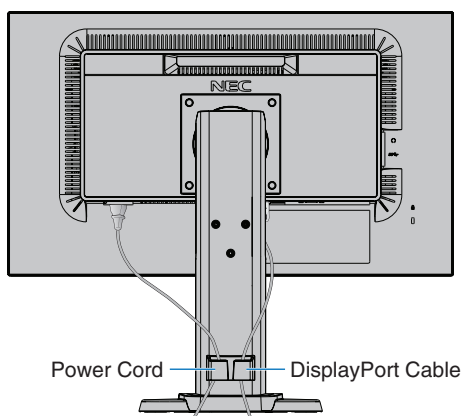
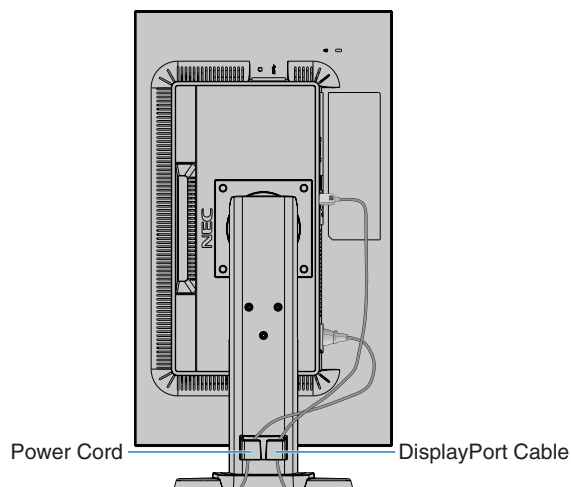

Figure C.2
Figure C.3
- Place the cables into the cable management system that is built into the monitor stand firmly and evenly (**Figure C.2** and **Figure C.3**).